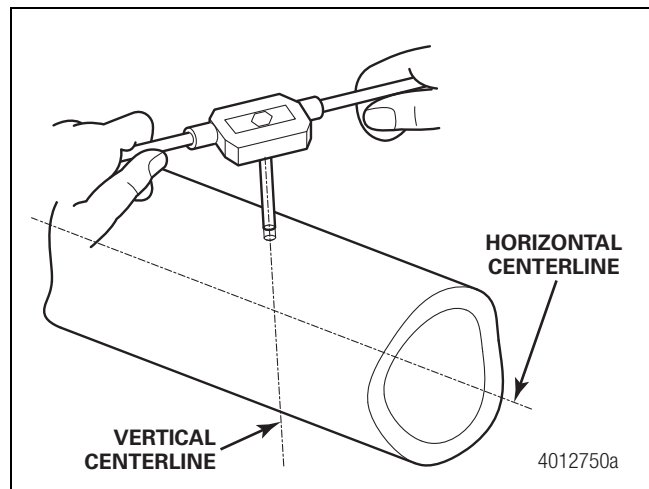

Figure 4.5
4. Inspect all fasteners and tapped holes. Replace damaged fasteners and repair damaged tapped hole threads with a correct sized die. Figure 4.5.